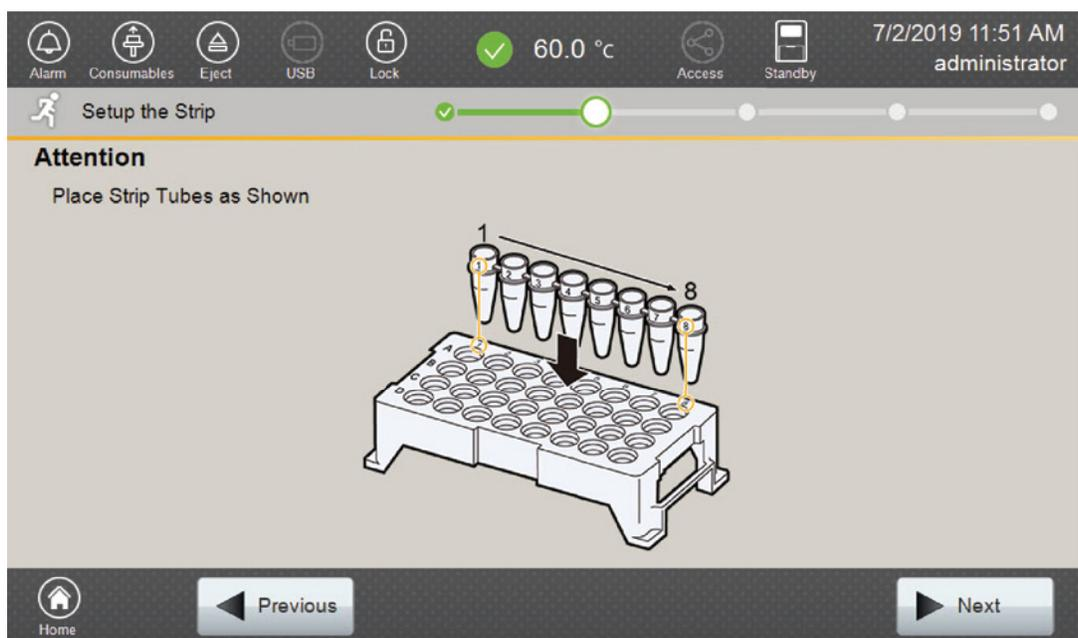
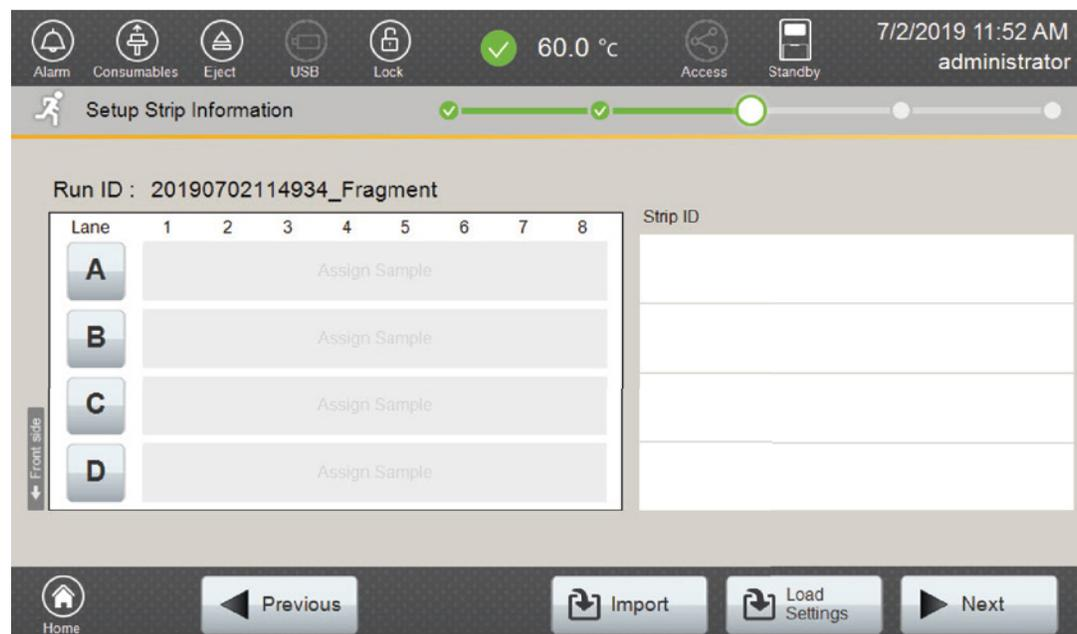

Figure 9. 'Setup the Strip' screen.
Figure 10. 'Setup Strip Information' screen.
5. Select **Next** to proceed to the message screen for placement of strips into the sample cartridge (Figure 9).
6. Follow the message screen for placement of strips into the sample cartridge (Figure 9).
1. Select **Next** on the 'Setup the Strip' screen shown in Figure 9. This will take you to the 'Setup Strip Information' screen shown in Figure 10.